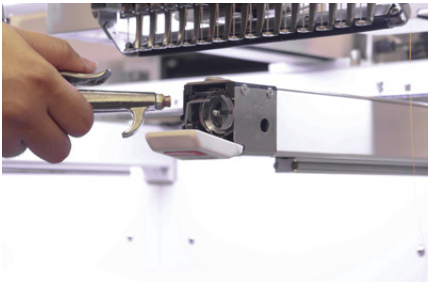

Figure 105
- Remove the bobbin case and apply two to three drops of sewing machine oil on the race of the rotary hook, where the two sections of the hook meet. **See Figure 105.**